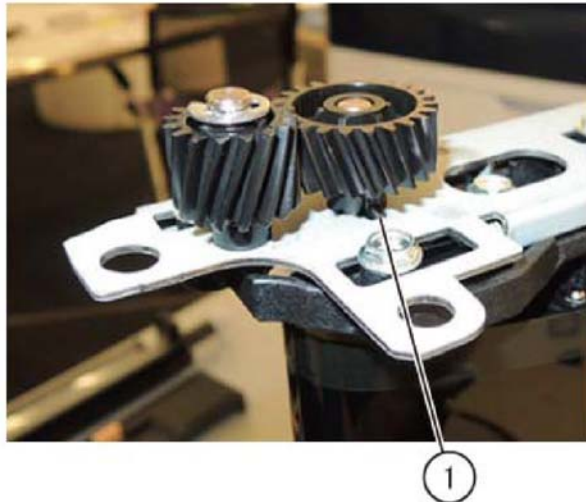

Figure 15 Tension roll tab alignment
4. When installing the rear holder and the tension roll, align the tab of the bearing to the cut-out of the bearing installation hole, Figure 15.